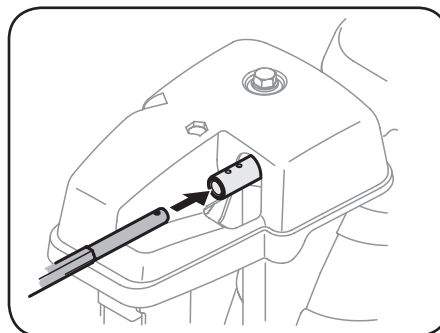

Figure 2-14
2. Insert round end of the chute control rod (hole pointing upward) as far as possible into chute control assembly. See Figure 2-14.